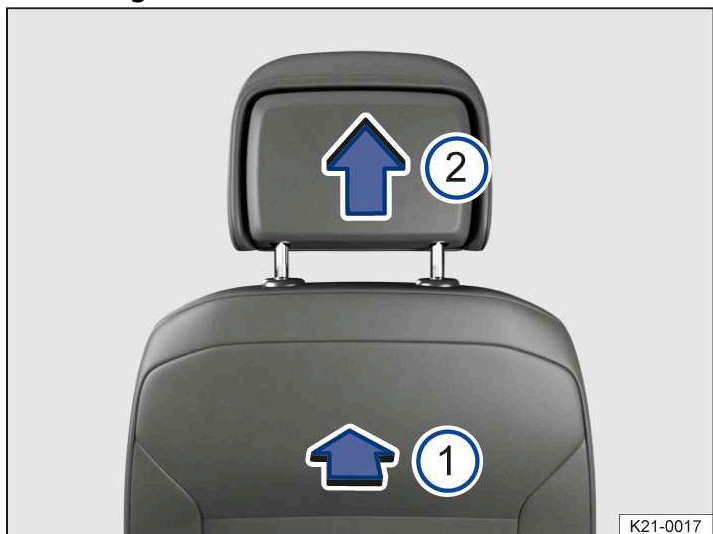

Fig. 1 Removing a front head restraint (illustration).
2. To release the head restraint, feel for the recess in the marked area → Fig. 1 (1) on the rear side, press in and hold in the direction of the arrow.
3. Pull the head restraint out in the direction of the arrow → Fig. 1 (2).